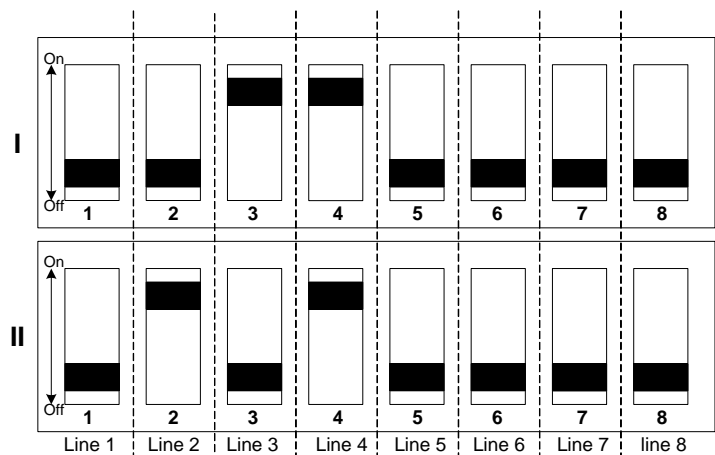

Fig. 2
Duty mode of lines is determined by a pair of switchers (pos.4, fig.1). Each line has a pair of switchers, whose position is determined by the operation mode (fig . 2)
The Fire control panel enters Test Mode after a fire alarm line has been manually set to operate in test condition. Test Mode condition is set by a pair of DIP-switches (pos.4, fig.1). Each line has a pair of switchers, whose position is determined by the operation mode (fig.2) of each separate line.